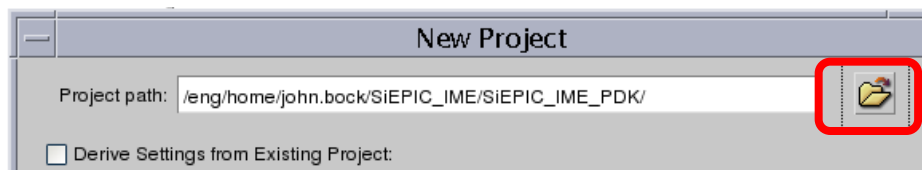

Figure 4: New Project Dialog Box
- a. In the **New Project** dialog box, click the icon **Open Directory** to the right of the field **Project path** (see Figure 4).